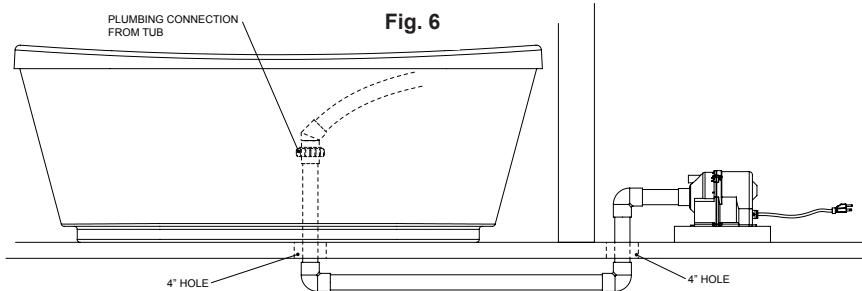

Fig. 6
- 1** Determine the locations for the blower and verify that access to blower and airline fittings will be possible after bathtub is installed. Blower location must be within 10 feet of the tub with no more than three elbows as illustrated (Fig. 6).